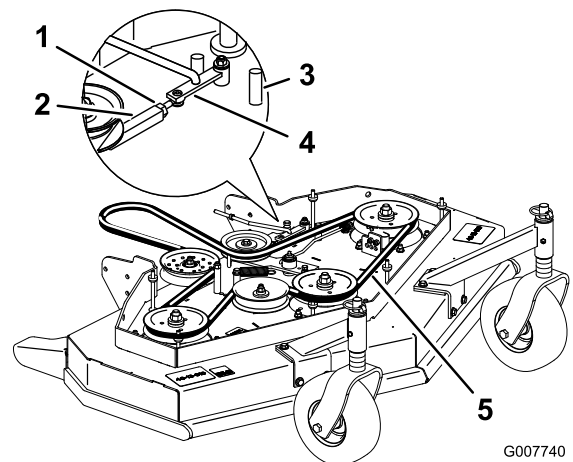

Figure 43
3. Loosen the locknut on the turnbuckle (Figure 43).
4. Rotate the turnbuckle toward the rear of the mower to increase the tension on the belt. Rotate the turnbuckle toward the front of the mower to decrease the tension on the belt (Figure 43).